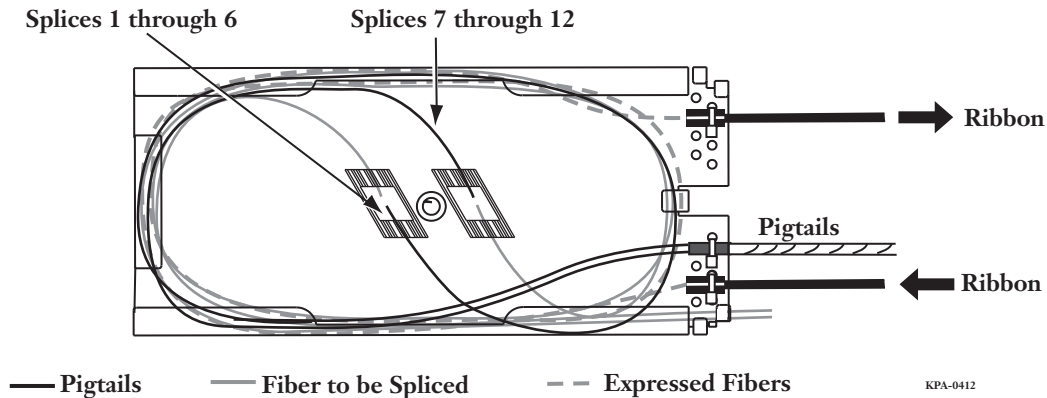

Figure 32
Before splicing fibers, determine the fiber routing configuration you will use in your splicing application. Ribbon fibers may enter the splice tray and have all fibers in the ribbon spliced at that time or stored in the tray for splicing later. It is possible to splice one fiber of a ribbon and express the remaining fibers out of the splice tray. Figure 32 illustrates the recommended routing inside the tray for fibers being spliced and the express routing of the unused fibers.
- Step 3:** Route two loops of ribbon fiber around the inside perimeter of the splice tray as shown in Figure 32 and exit the tray. Mark the ribbon where it exits the tray.
**Step 8:** For the first six splices, route one loop of distribution fiber around the inside perimeter of the splice tray and enter the first splice organizer (Figure 32). Route any additional fibers one and a half times around the tray to enter the opposite side of the second splice organizer (Figure 32).
**Step 1:** Route two loops of pigtail around the inside perimeter of the splice tray ((Figure 32).